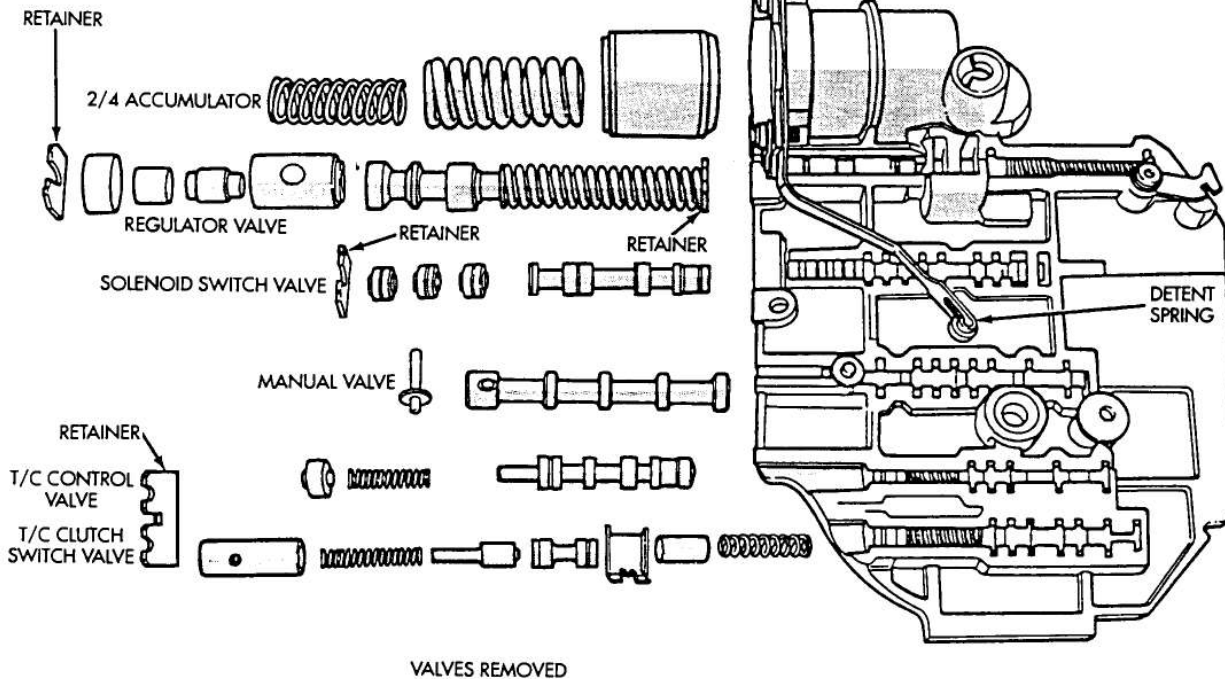

Fig. 16 Valve Body Components
- (10) Tag all springs, as they are removed, for reassembly identification (Fig. 16).